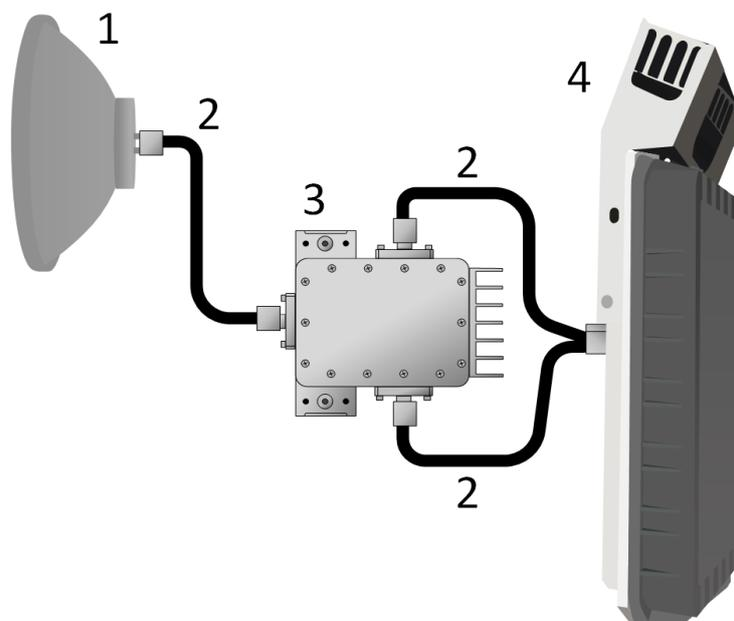

Figure 6-3 1+1 HSB connection diagram for Integra-X/X2 4(U) GHz frequency range
The 4(U) GHz Integra-X/X2 does not need the tower mountable OMT, as FODU in this frequency band features two N-Type interface ports. It can be directly connected to a single antenna with coaxial cables and a coupler (for more information, refer to Attaching FODU to the antenna). Integra-X/X2 4(U) GHz FODU 1+1 HSB connection to the antenna is shown in Figure 6-3 1+1 HSB connection diagram for Integra-X/X2 4(U) GHz frequency range. It includes an antenna (1), a coupler (3), waveguides (2), and a single FODU (4).